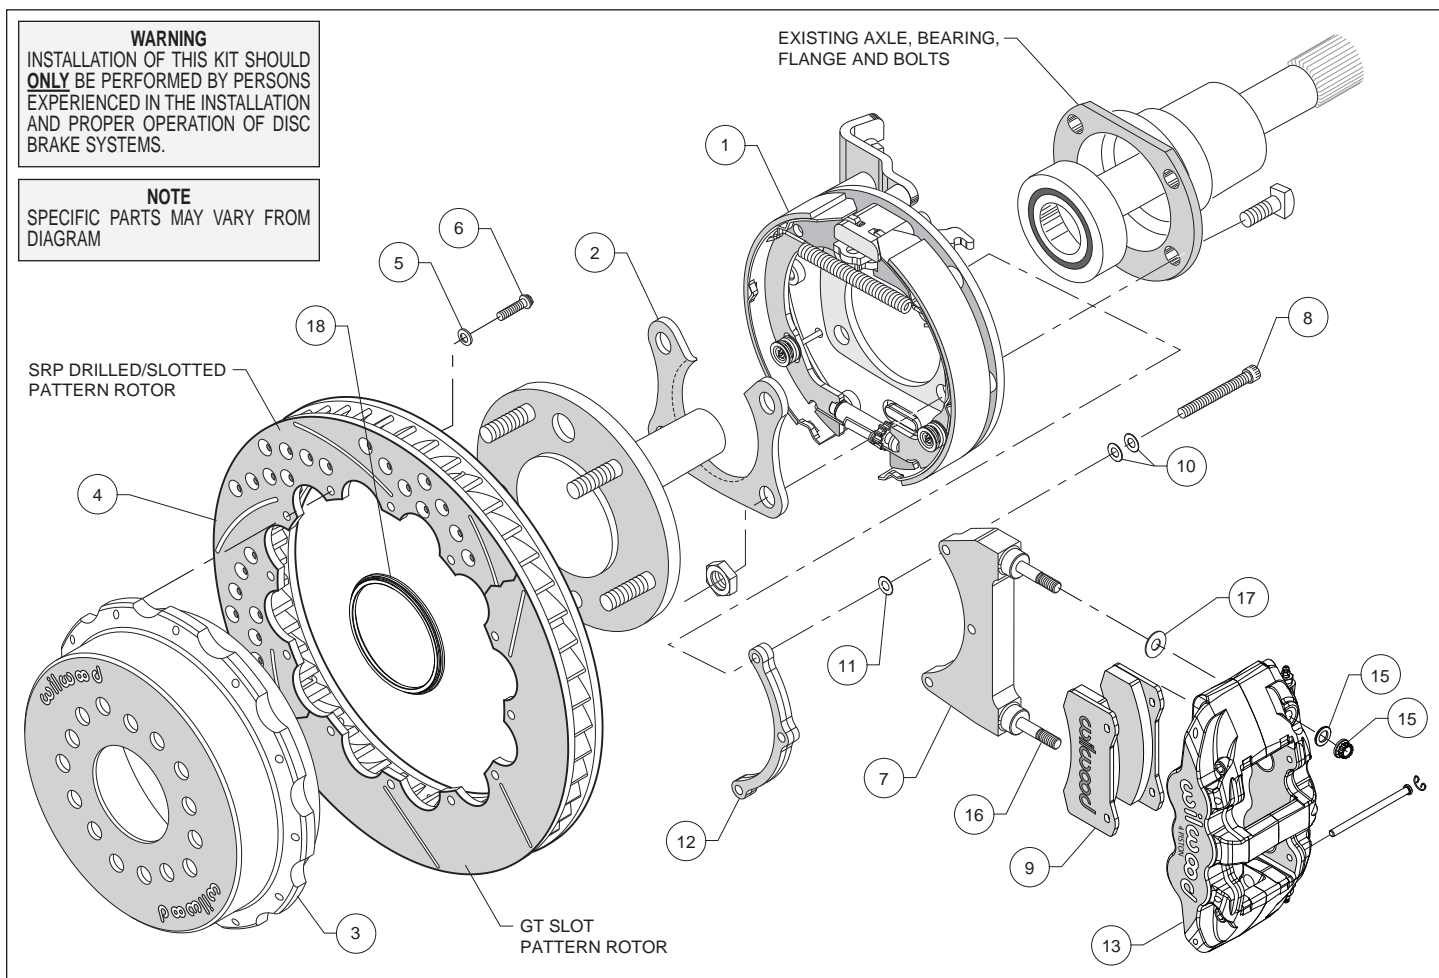

Figure 1. Typical Installation Configuration
- Orient the bracket assembly (1) as shown in Figure 1 and slide it onto the axle. Insert the axle and bracket into the axle housing. Ensure that the bracket assembly backing plate fits flush against the axle housing flange.
- Install the bearing retainer (2) with the opening pointing upward and the lip facing inward (toward the bearing), as shown in Figures 1 and 4. Secure retainer and bracket assembly to the axle housing flange using the Original Equipment Manufacturer (OEM) bolts and nuts, Figure 1. Apply red *Loctite*® 271 to the OEM bolt threads and torque to OEM specifications.
- Slide the rotor registration adapter (18) onto the axle register on the axle flange with the smaller O.D. facing toward the rotor/hat (3). Align the correct hole pattern in the hat with the stud pattern on the axle flange. **NOTE:** Some OEM and aftermarket axles come with stud sizes larger than 0.50" diameter. Verify stud size and have a qualified machine shop drill the hats to the correct size, if necessary. Slide the hat/rotor assembly (3 and 4) over the wheel studs covering the bracket kit assembly (1) and against the axle flange face. Check to be sure the hat seats squarely against the hub. Install three lug nuts (finger tighten) to keep the rotor/hat assembly in place while continuing with the installation.
- NOTE:** Please reference the caution statement at the beginning of the assembly instructions. The caliper mounting bracket assembly (7) should be installed first with clean, dry threads on the mounting bolts (8). Install the bracket from the rear side of the bracket kit assembly (1) by sliding bolt (8) through two flat washers (10), bracket (7), shim washer (11) and finally through the spacer (12), see Figure 1. **NOTE:** End of bolt should not exceed inside face of insert. The bracket must tighten squarely against the back side of the bracket kit assembly (1). Inspect for interference from casting irregularities, machining ridges, burrs, etc. Use one thin shim (11) between the bracket (7) and spacer (12) during initial trial fitting.
- Lubricate caliper mounting studs and nuts with lightweight oil. Install one washer (17) over each pre-installed stud (16) on the radial mount bracket (7). Slide the caliper (13) in place over the studs and rotor, then install the washer (15) and lock nut (14) to hold the caliper in place. The caliper bleed screws should be pointing up. Snug the lock nuts (14) and check that the rotor (4) is centered in the caliper (13). Add or subtract .015" shims (11) as necessary between the caliper mounting bracket (7) and the spacer (12) to center the caliper (13).
- Remove the two pad retaining pins from the caliper (13) by carefully popping out the pin retaining clips and sliding out the pins. Insert the brake pads (9) into the caliper from the bottom, Figure 1. With the friction material facing the rotor, secure the brake pads in place with the pad retaining pins and clips. Reinstall the caliper onto the caliper mounting bracket and temporarily tighten the lock nuts. Check that the top of the brake pad is flush with the outside diameter of the rotor. If not, adjust by adding or subtracting shims (17) between the caliper and the bracket.
- Adjust the parking brake shoes outward (using a drum shoe adjustment tool available at your local auto parts store) while spinning the hat (3) until a slight drag is felt against the hat/drum. Remove the lug nuts that were holding the hat/rotor in place. Install the wheel and lug nuts. Check to see that the wheel rotates freely without interference.
- Once all clearances have been checked, remove the wheel, caliper, hat/rotor from the bracket kit assembly (1). Secure the caliper mounting bracket (7) to the bracket kit assembly (1) using red *Loctite*® 271. Torque bolts (8) to 180 in-lb. Reinstall the hat/rotor assembly and again use lug nuts to hold it in place. Reinstall the caliper, torque the caliper nuts (14) to 47 ft-lb.
- NOTE:** Clevis and cable kits which attach to the parking brake assembly are not included in the Wilwood parking brake kit. Wilwood offers a generic style parking brake cable kit, P/N 330-9371 for this application which can be ordered separately from your local Wilwood dealer or by calling Wilwood customer service at (805) 388-1188.